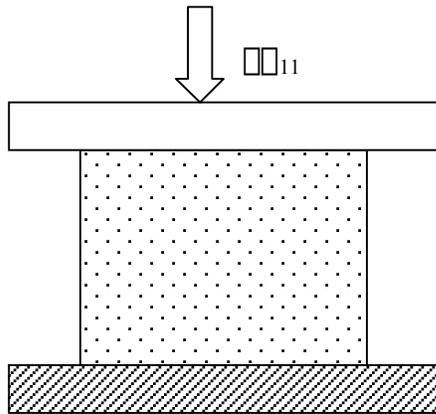

Fig. 1a
a) The sample is placed between two rigid surfaces and compressed by 5% of its initial height (Fig. 1a). If the material were incompressible and has a Young's modulus of 10^6 Pa, how much force would need to be applied?